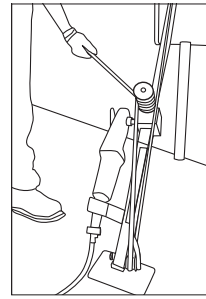

Fig 14
2. Unwrap rope from capstan and extend rope around Lower Pulley then back up to capstan (Fig 14).